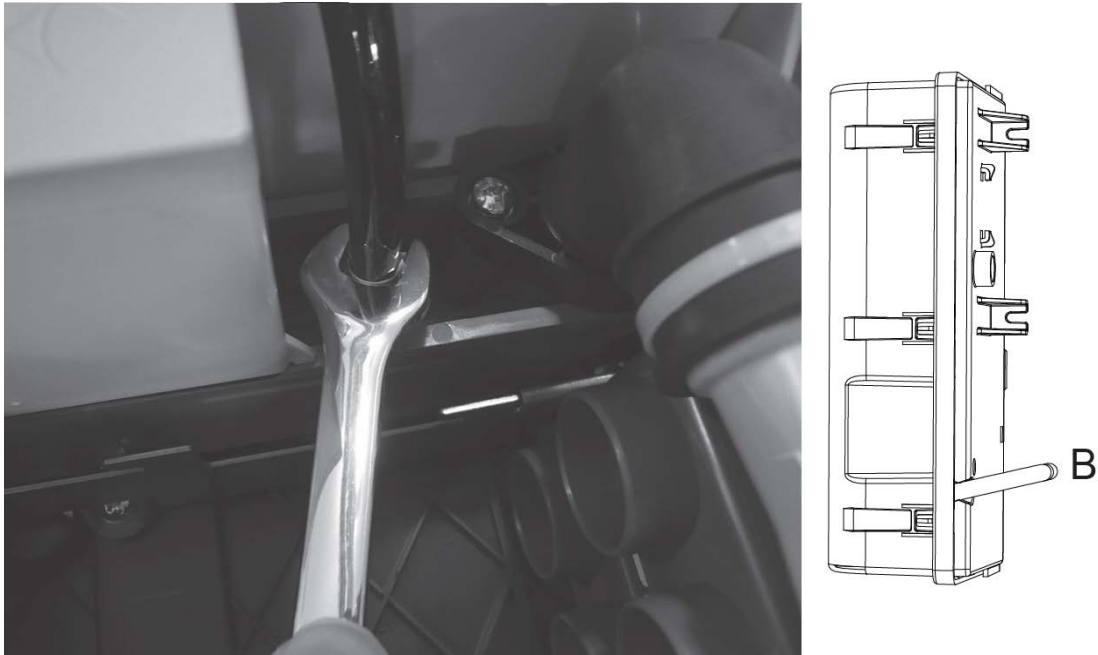

Figure 7-9: Remove Long Tube
6. Use a 10mm spanner or a large flat bladed screwdriver to press down on the black ring near the secondary filter (B) whilst simultaneously using the other hand to remove long tube (Figure 7-9).